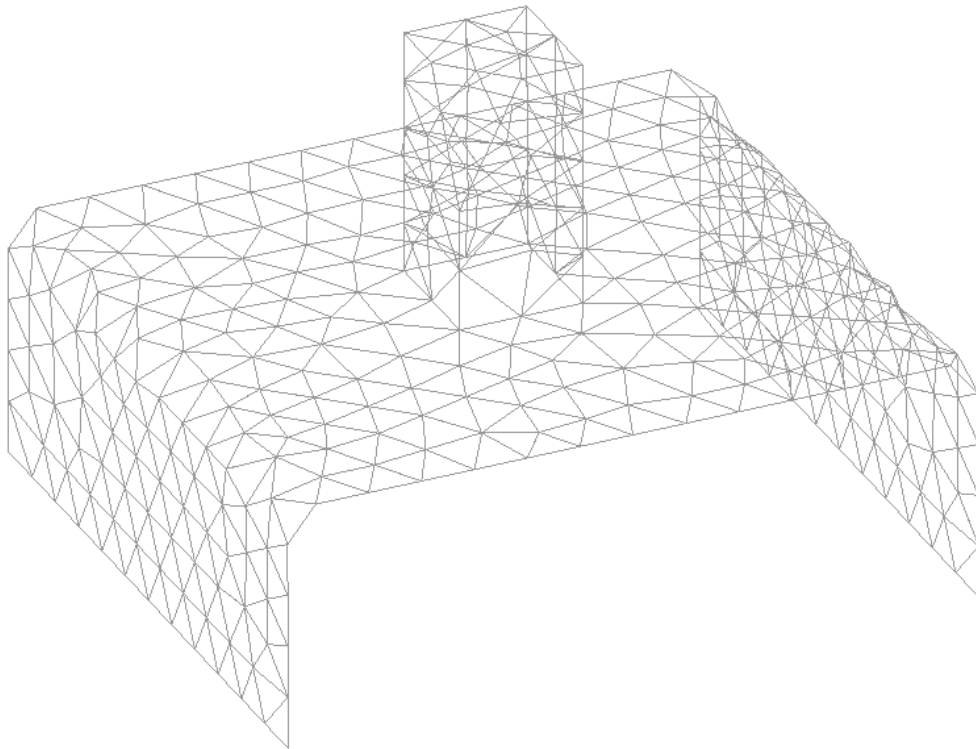
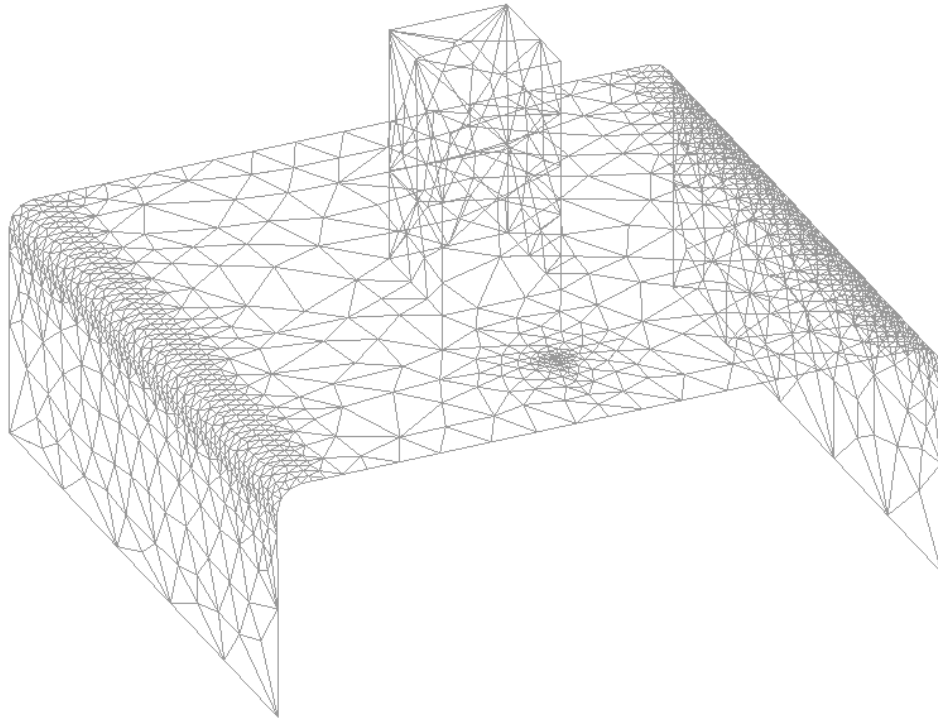

Figure 11. Mesh using the RJump mesher.
Figure 14. Mesh using the RJump mesher, assigning sizes by chordal error and forcing an entity to be meshed.
surfaces that are tangent enough do not have nodes; contact points between lines tangent enough are also skipped when meshing (see Figure 11).
- 7 . Another window appears in which you can enter a maximum element size. Leave the default value unaltered and click **OK**. This results in a mesh like the one obtained before (in Figure 11), but with high concentration of elements around point number 29. Note that there are nodes on line number 43 because we have forced RJump not to skip this line (see Figure 14).